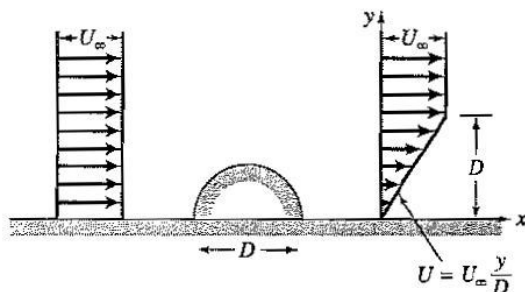

Figure P3.52
3.52 A model of a two-dimensional semi-circular hut was put in a wind tunnel, and the downstream velocity profile was found to be as shown in Figure P3.52. Here, U_∞ is the freestream velocity, ρ is the air density, and D is the hut diameter. Assume that viscous effects and pressure variations can be neglected.